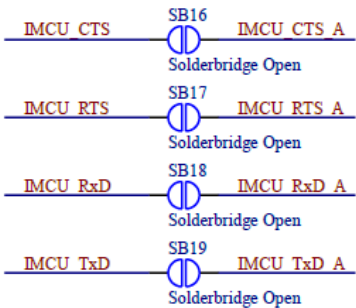

Figure 12: Open solder-bridges on the UART interface running from Atmel MCU (U4) to analog switch U15 (to BL653 ultimately)
- Fitting a jumper in J35 also allows the BL653 UART to be routed to Atmel MCU UART (signal also on J19 and net names beginning with IMCU_) via open solder bridges SB16 to SB19 shown in Figure 12. You must connect these bridges with solder. This may be useful for those customers wanting to work with the Nordic